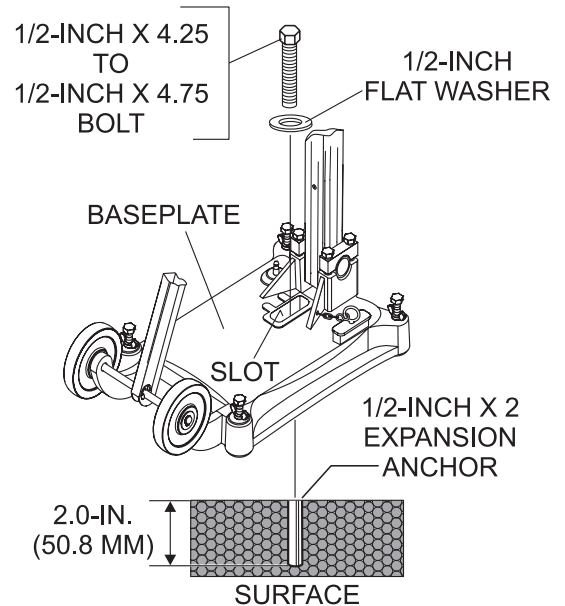

Figure 15. Baseplate (Expansion Anchor)
- Insert the anchor (Figure 15) into the 1/2-inch hole that was drilled into the surface. It may be necessary to slightly tap the anchor into the hole. For best results, a tight fit of the anchor is required. This will keep the anchor from pulling out.